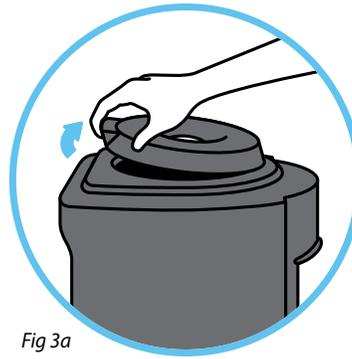

Fig 3a
- If your insert has a notch, remove by pulling up on the notch located on the top rear of the dispenser (*Fig 3a*).